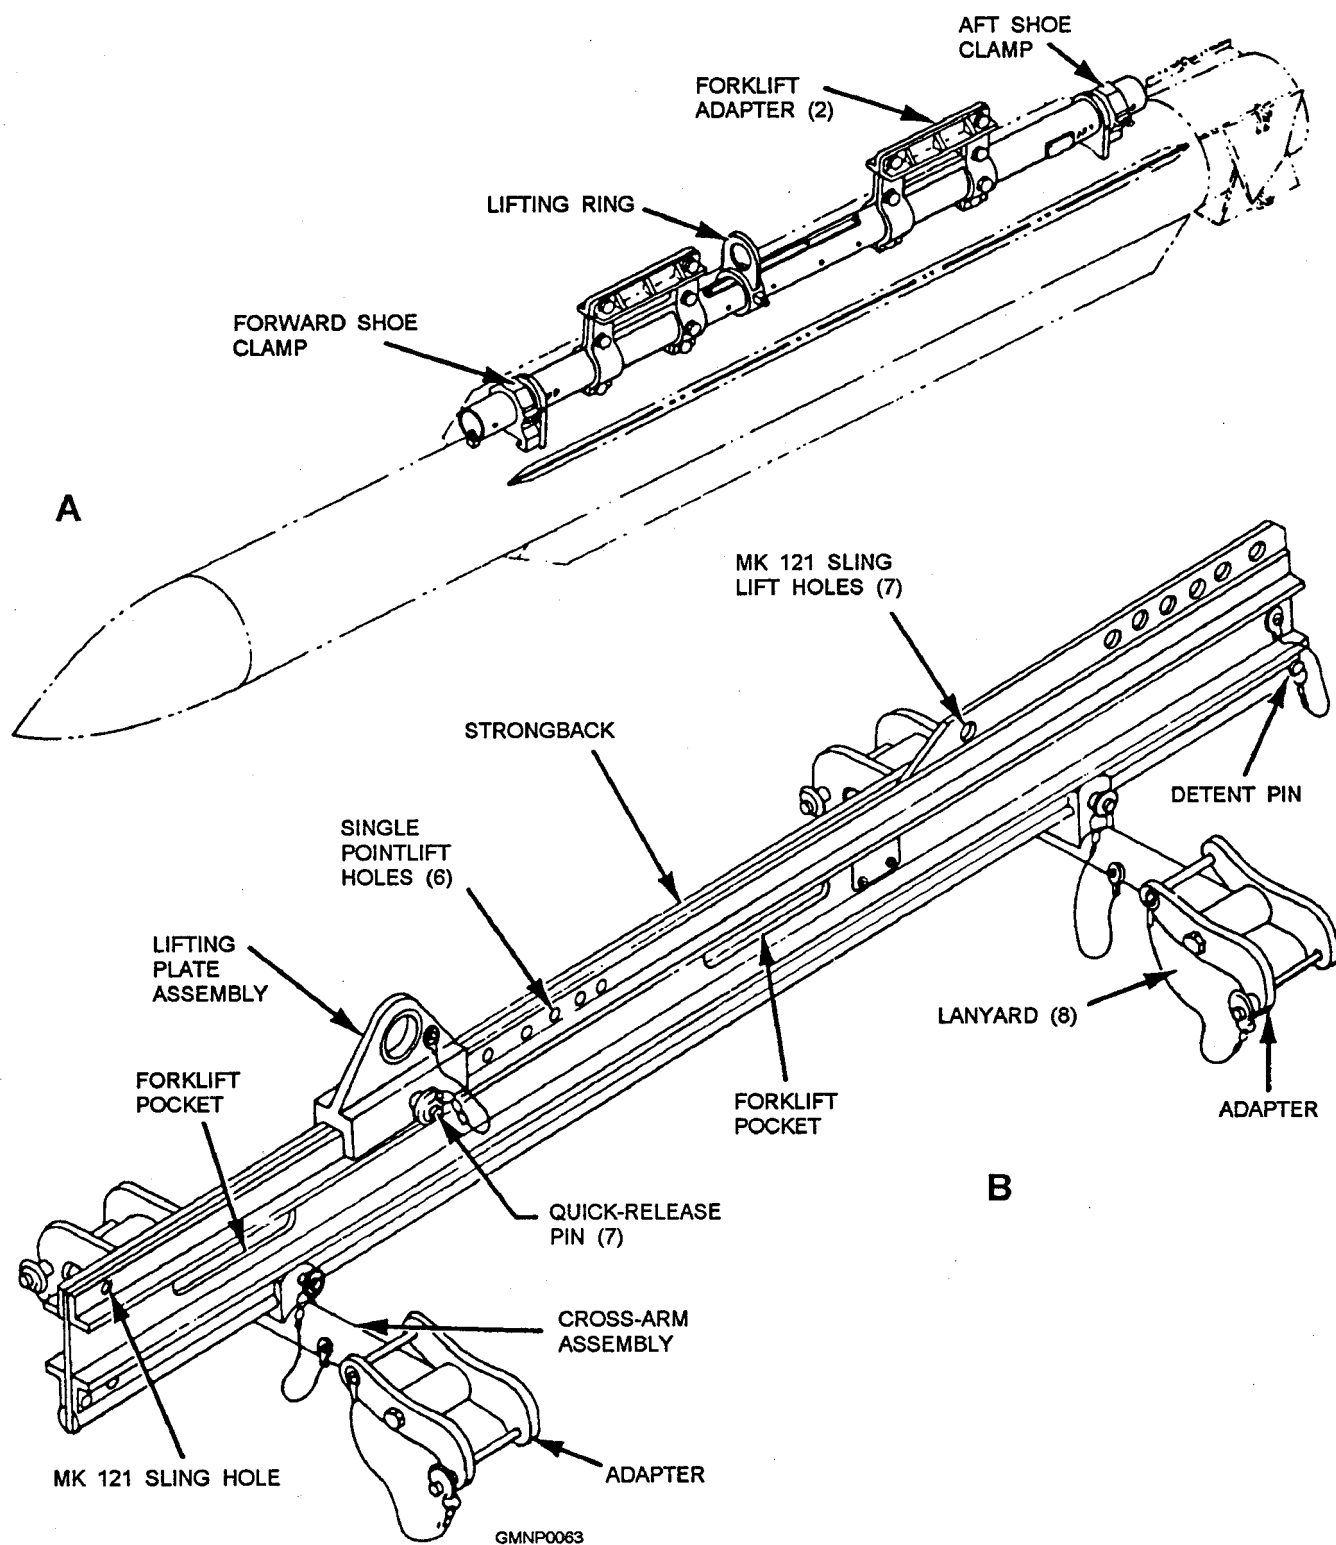

Figure 2-48.—View A. A Mk 5 hoisting beam attached to a missile; View B. A Mk 15 hoisting beam.
**HOISTING BEAMS.—** Figure 2-48 shows two common hoisting beams. These devices are often called handling beams or strongbacks. Generally, a hoisting beam attaches to the shoes of the round or to its handling bands. The round can then be lifted out of its shipping container by a forklift, truck, or crane. The missile is then transferred to a Mk 20 stowage cradle or a dolly loading stand. Of course, this sequence can be reversed to reload a container.